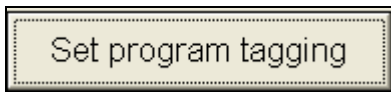

Figure 16.1.12C
9. You can enter a name for each program by clicking on the **Set program tagging** button (Figure 16.1.12C).